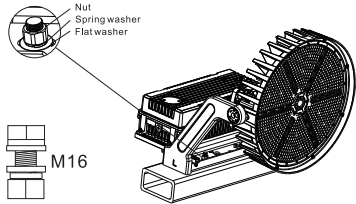

Figure 4
- 3. Install the luminaire on the crossbar and secure it with nuts, spring washers and flat washers (Figure 4);